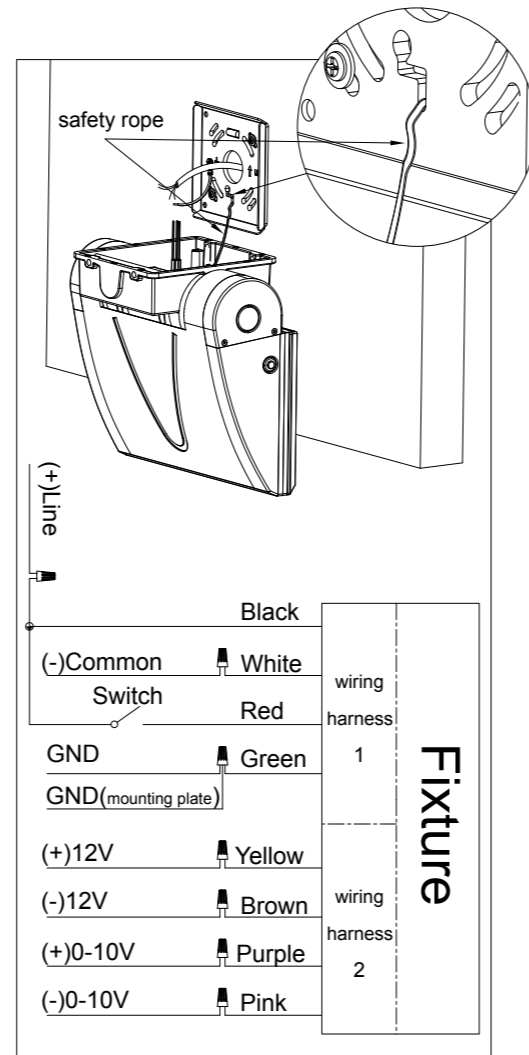

Figure 5
2. Insert the safety rope of the lamp into the special-shaped groove of the installation board and draw it into the bottom to clamp it tightly, as shown in Figure 5; at this time, the lamp is hung on the installation board by the safety rope, freeing hands for wiring.
Refer to the wiring diagram at the bottom of Figure 5 and use the wiring caps in the accessories package for wiring.